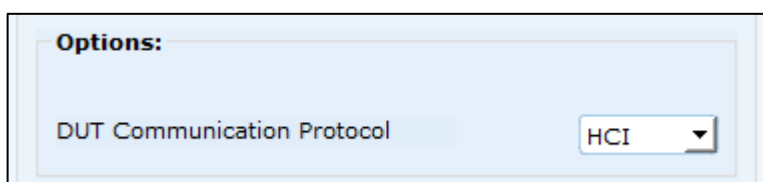

Figure 14: DUT communication protocol setting in RTX2254 GUI
- HCI in EUT Communication Protocol (Figure 14).